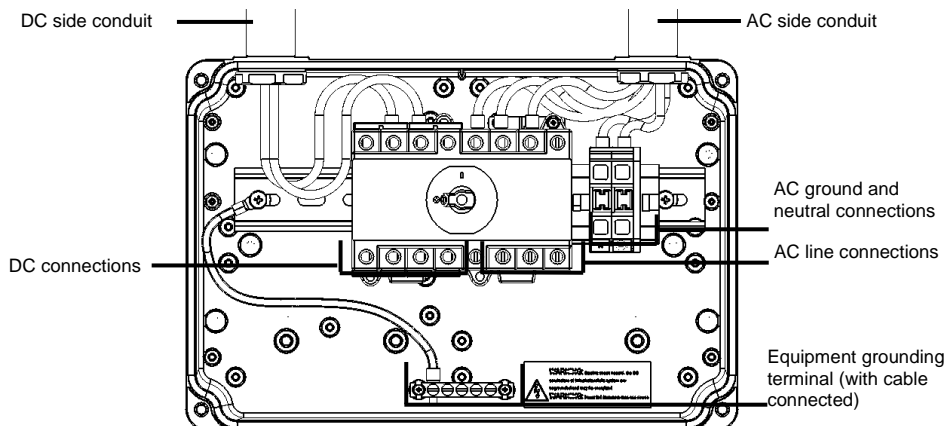

Figure 18: Inside the AC/DC Safety Switch for three phase inverters (DCD-3PH-US-S3-A)
- 3 Connect the Ground and Neutral wires to the terminal blocks in the AC side of the switch (see Figure 18.)